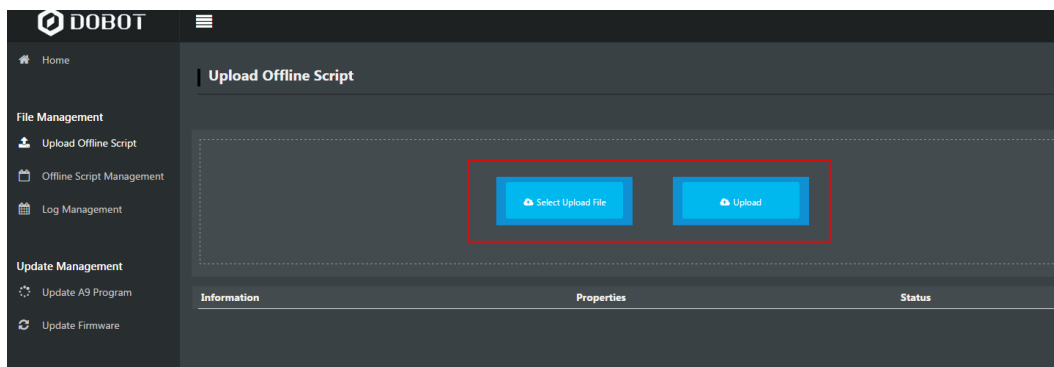

Figure 6.35 Status of Uploading
Step 7 Click **Upload**. You can view the status, as shown in Figure 6.35.